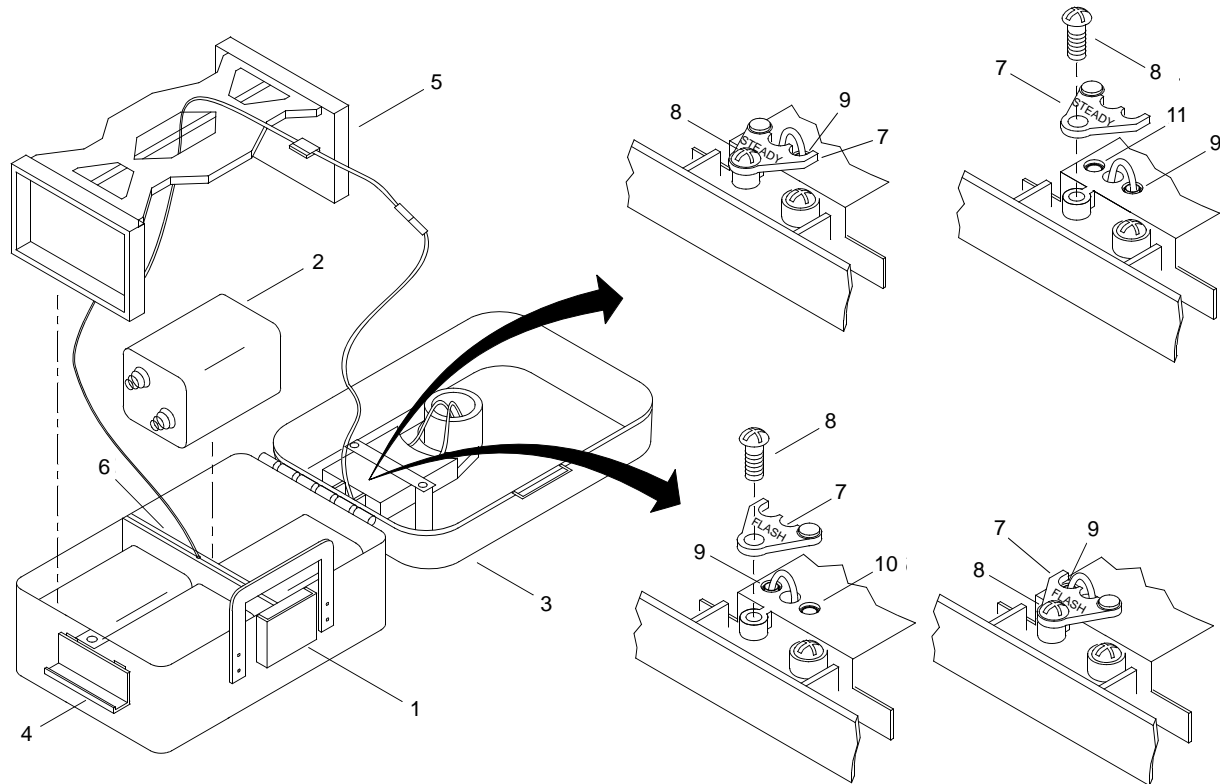

Figure 30. Towing Lights
1. Remove towing lights (figure 30, item 1) and batteries (figure 30, item 2) from BII container.
2. Open light cover (figure 30, item 3) by unlatching clasp (figure 30, item 4).
3. Remove battery bracket (figure 30, item 5).
4. Position two batteries (figure 30, item 2) on each side of conductor plate (figure 30, item 6) in towing light case (figure 30, item 1).
5. Position battery bracket (figure 30, item 5) over batteries (figure 30, item 2) and conductor plate (figure 30, item 6).
6. Push battery bracket (figure 30, item 5) down evenly, over batteries (figure 30, item 2).
7. Verify red lamp selector (figure 30, item 7) is positioned to FLASH or STEADY, as required.
8. If FLASH is required and STEADY is selected, change red lamp selector (figure 30, item 7) as follows.
- a. Remove screw (figure 30, item 8) securing red lamp selector tab (figure 30, item 7) to light cover (figure 30, item 3).
- b. Remove socket plug (figure 30, item 9) from receptacle (figure 30, item 10).
- c. Install socket plug (figure 30, item 9) in receptacle (figure 30, item 11).
- d. Turn red lamp selector (figure 30, item 7) over to read FLASH.
- e. Install screw (figure 30, item 8) to secure red lamp selector (figure 30, item 7) to light cover (figure 30, item 3). Tighten screw (figure 30, item 8).
9. Close light cover (figure 30, item 3) and latch clasp (figure 30, item 4).
10. Position towing lights (figure 30, item 1) on FC deck per U. S. Coast Guard navigation requirements. (COMDTINST M16672.2D)
1. Remove towing lights (figure 30, item 1) from FC deck.
4. Remove two batteries (figure 30, item 2) from each side of conductor plate (figure 30, item 6) in towing light case (figure 30, item 1).
5. Position battery bracket (figure 30, item 5) over conductor plate (figure 30, item 6).
6. Push battery bracket (figure 30, item 5) down evenly.
7. Close light cover (figure 30, item 3) and latch clasp (figure 30, item 4).
8. Stow towing lights (figure 30, item 1) and batteries (figure 30, item 2) in BII container.